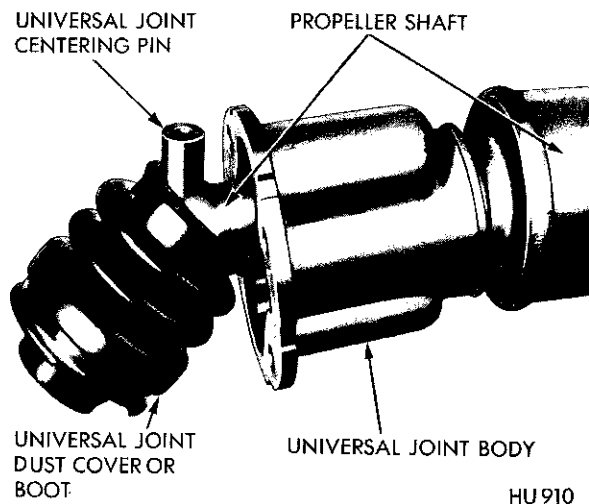
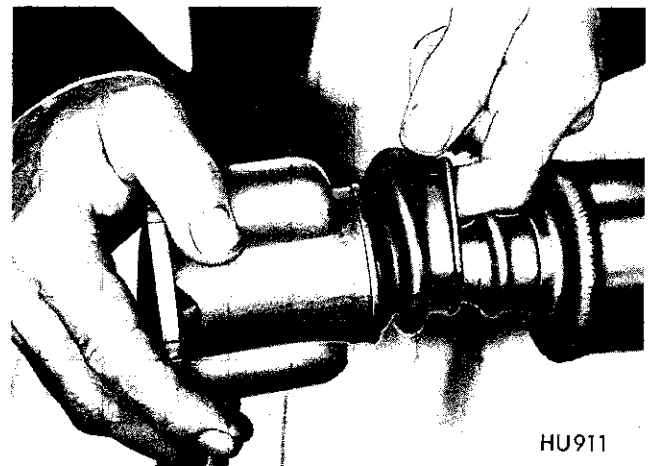

Fig. 11—Sliding Cover Over the Ballhead and Pin
Fig. 12—Working the Dust Cover through the Body
(1) When the trunnion pin and body have not been removed, a new dust cover can be installed, after coating all parts with Universal Joint Grease. Without using tools, stretch the cover over the pin (Fig. 11) and work it by hand through the body into position on the shaft (Fig. 12).